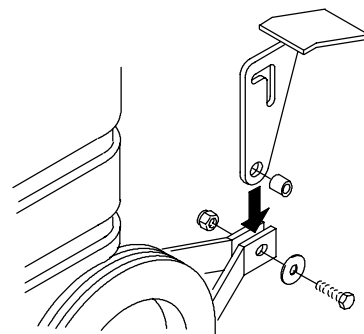

FIG. 4
8. Insert spacer through hole in pedal as shown. Position pedal between two holes in bracket and slide hex head screw through bracket and pedal. Secure with washer and nut (Figure 4).